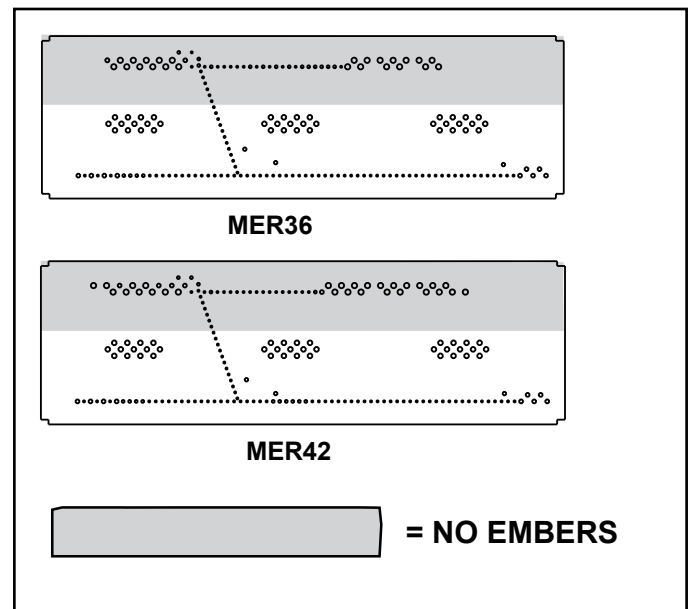

Figure 11.1 Burner Media / Ember Placement
- Embers may only be placed in areas as shown in Figure 11.1.